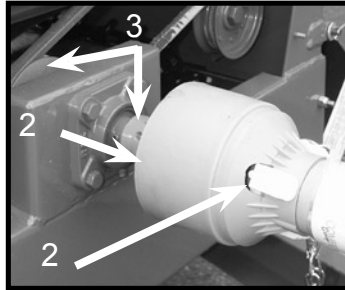

Figure 14-2 REAR
2. PTO universal joint – rear, Two (2) Figure 14-2 *, See arrows.